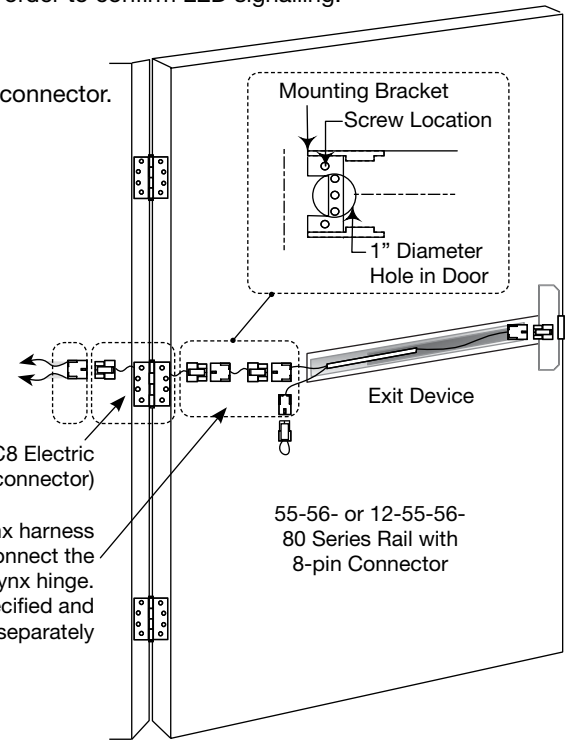

Fig. 5 **POWER MODE** Installation
- c. Feed the 3" harness through the 1" hole in the door and secure the rail to the door using the mounting bracket and two supplied screws (Fig. 5 **POWER MODE** Installation Diagram).